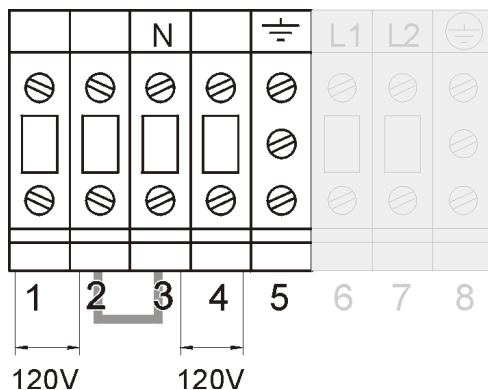

Figure 13. LP 5/6/8/10-11U: 120 Vac split-phase output connection
2. Connect the load wires between the terminals 1 (L1) and 2 (N) (120V), and between the terminals 3 (N) and 4 (L2) (120V). Connect the ground wire to terminal 5. Ground connection is essential! Do not remove the link between terminals 2 and 3. See figure 13.